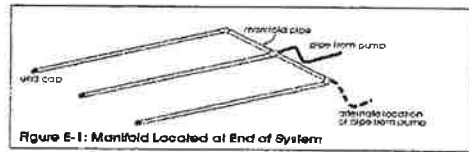

Figure E-1: Manifold Located at End of System
- If laterals are connected to header pipe as shown in Figure E-1, to select minimum required lateral diameter; enter figure E-4 with perforation spacing (2) and number of perforations per lateral (5).